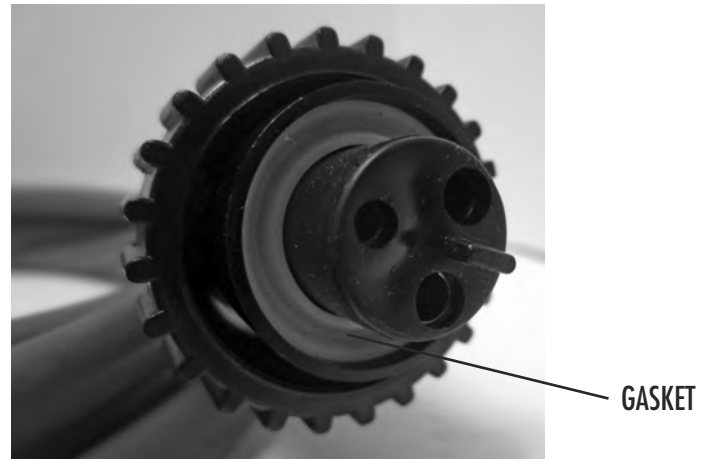

FIGURE S4
- 1) Ensure the gasket is secured inside the black plug of the long cable (40' or 50') as shown in Figure S4.